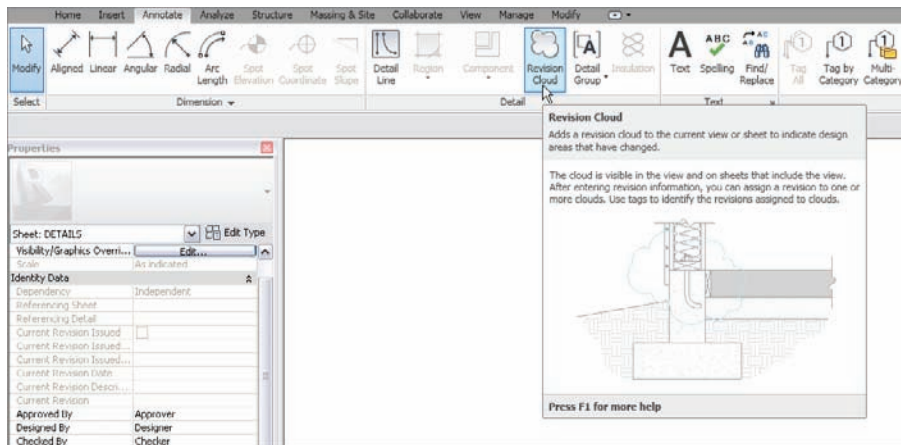

FIGURE 14.17 The Revision Cloud button on the Annotate tab
2. On the Annotate tab, click the Revision Cloud button, as shown in Figure 14.17. Notice that you're now in Sketch Mode.